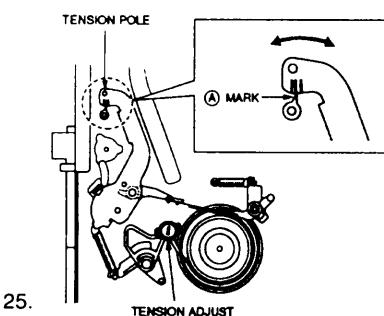

Fig 25.
- Confirm the distance between the three marks (lines) on the TENSION ARM and the (A) mark on the MECHA. CHASSIS so that the (A) mark aligns with the right edge of the centre line on the TENSION ARM as shown in Fig 25.